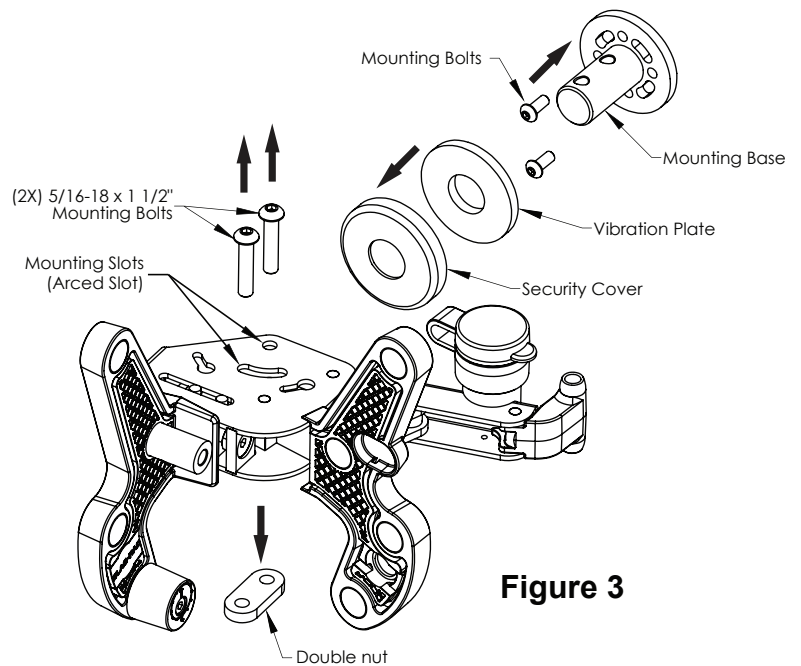

Figure 3
1. Note that one of the Mounting bolts is inserted through an arced slot (Figure 3). This slot allows you to cantor the **BLAC-RAC**® from 90° to 45° positioning.